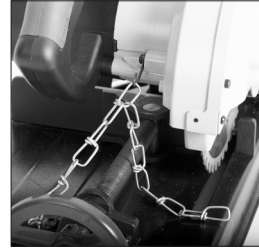

Fig. 1
- Unhook the Lock Down Chain from the Lock Down Hook. **(Fig. 1)**. Allow the Cutting Head to rise to its upper position.